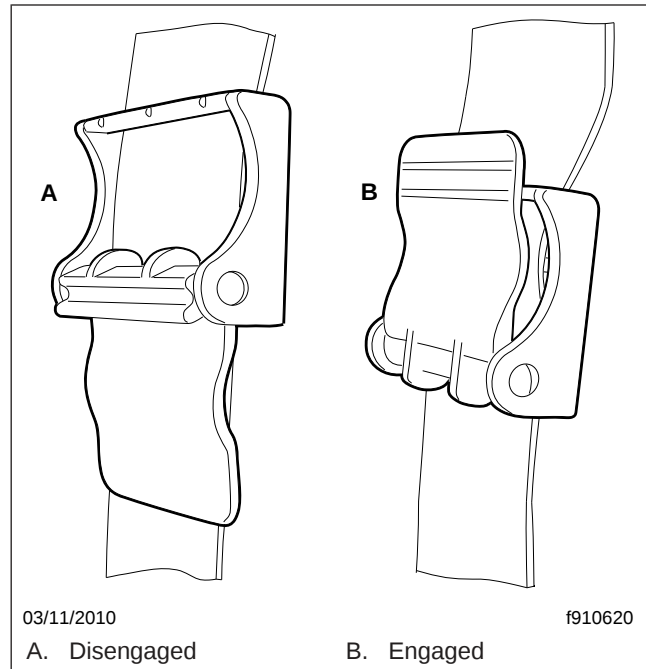
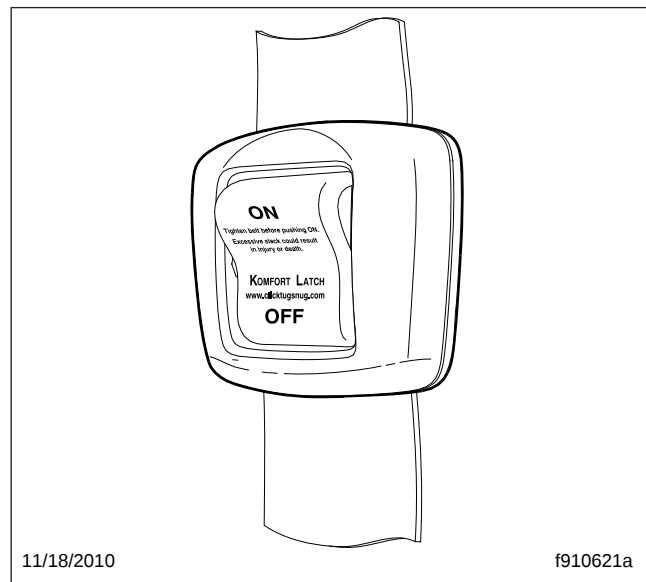

Fig. 6.7, Komfort Latch
Fig. 6.8, Sliding Komfort Latch
When engaged and used properly, the Komfort Latch (Fig. 6.7) and the Sliding Komfort Latch (Fig. 6.8) introduce a small amount of slack into the seat belt, resulting in a more comfortable ride.
If equipped with a Sliding Komfort Latch, make sure that the shoulder strap is snug against your chest. Without loosening the shoulder strap, push the Sliding Komfort Latch switch to the "ON" position. See Fig. 6.8. To activate the latch lean forward until you hear a click. This will allow for approximately 1 inch (2.5 cm) of slack between your chest and the shoulder harness. Once engaged, the latch will allow you to lean forward about 5 inches (13 cm) without having to reset the latch. Leaning forward more than 5 inches (13 cm) will disengage the Sliding Komfort Latch, requiring it to be reset.
1. Slowly pull the link end of the three-point seat belt out of the retractor and pull it across your lap (from outboard to inboard) far enough to engage the buckle. If the retractor locks too soon, allow the belt to retract slightly, then slowly pull it out again. See Fig. 6.8.